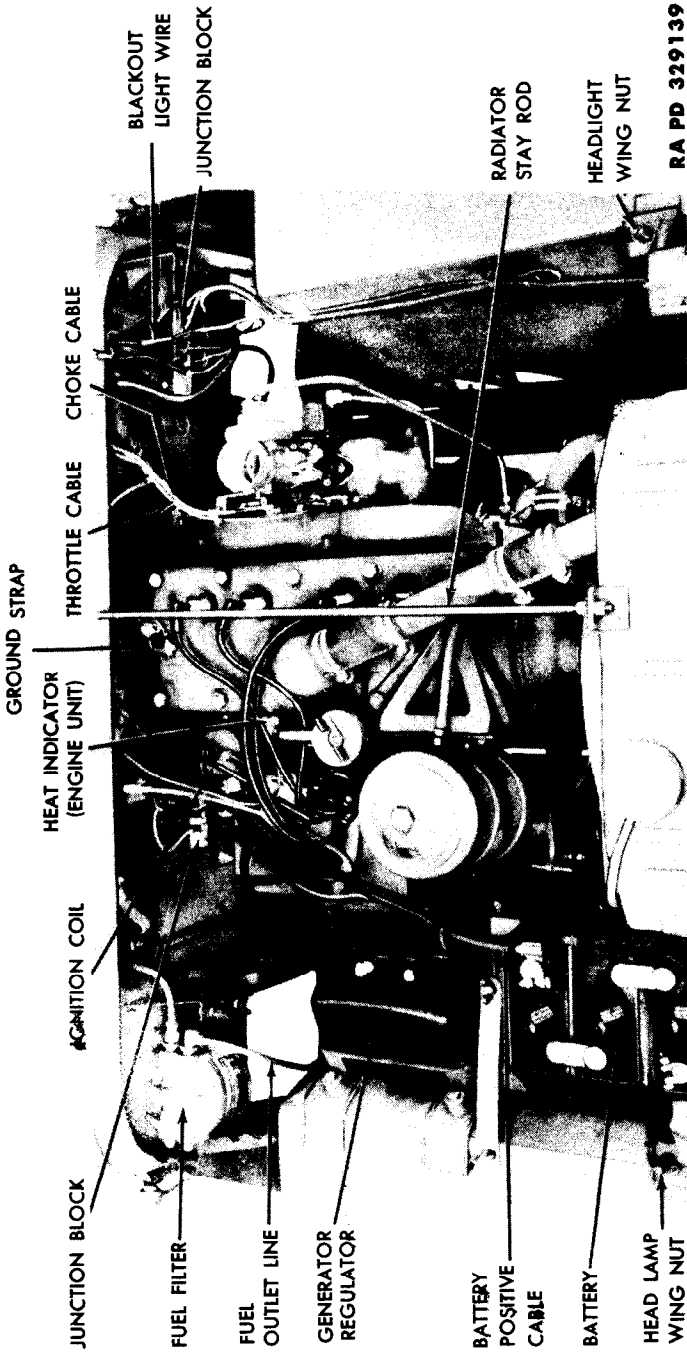

Figure 101 — View of Electrical Wires and Tubes on Cowl
g. **Disconnect Miscellaneous Wires and Tubes in Engine Compartment** (fig. 101). Disconnect the positive cable at the battery. Disconnect the wire leading from the junction block at the left side of the cowl to the generator regulator. Disconnect the wire leading from the ignition coil to the junction block. Disconnect the battery cable at the starting switch. Disconnect the ground strap leading from the cylinder to the cowl. *NOTE: When removing the wires, tag them for later identification.* Disconnect the fuel outlet line at the fuel filter. Disconnect the three wires leading from the left fender to the junction block at the left side of the cowl. Disconnect the blackout light wire at the connection at the cowl. Disconnect the two wires at the hydraulic brake master cylinder. Disconnect the wire at the bottom of the steering tube. Disconnect the choke and throttle cable at the carburetor. Disconnect the oil line leading to the oil gage at the flexible connection at the left side of the engine. Disconnect the radiator stay rod at the radiator and cowl and remove the stay rod. Drain the coolant from the radiator and remove the heat indicator (engine unit) at the right-hand side of the cylinder head.
e. Install Miscellaneous Wires and Tubes in Engine Compartment (fig. 101). Install the heat indicator (engine unit) at the right-hand side of the cylinder head. Install the radiator stay rod to the radiator and at the cowl. Connect the gage oil line at the flexible connection on the left side of the cylinder block. Connect the choke and throttle cables at the carburetor. Connect the horn wire at the bottom of the steering post. Connect the two stop light wires at the hydraulic brake master cylinder. Connect the blackout light wire at the connection at the cowl. Connect the three headlight wires on the left fender to junction block at the left side of the cowl. Connect the ground strap leading from the rear of the cylinder head to the cowl. Connect the battery cable at the starting motor switch. Connect the wire leading from the coil to the junction block at the right-hand side
a. Remove Battery (fig. 101). Disconnect the positive and negative cables from the battery. Remove the two wing nuts that secure the battery hold-down rack and remove the rack from the battery.
m. **Install Battery** (fig. 101). Place the battery in the battery rack. Install the hold-down bracket on the battery. Install the two wing nuts that secure the hold-down bracket. Connect the negative and positive cables to the battery.